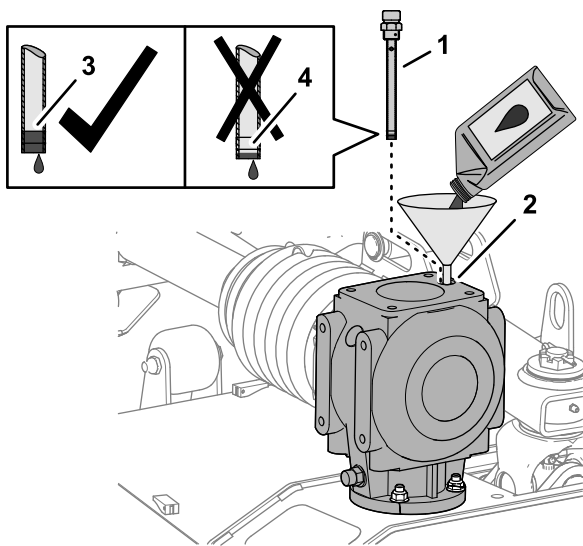

Figure 63
1. Add 1.06 L (36 fl oz) of the specified gear lubricant to the gearbox through the dipstick port (Figure 63).
2. Thread the dipstick into the port, remove the dipstick, and check that the lubricant level (Figure 63).
4. Thread the dipstick into the fill port and tighten the dipstick (Figure 63).